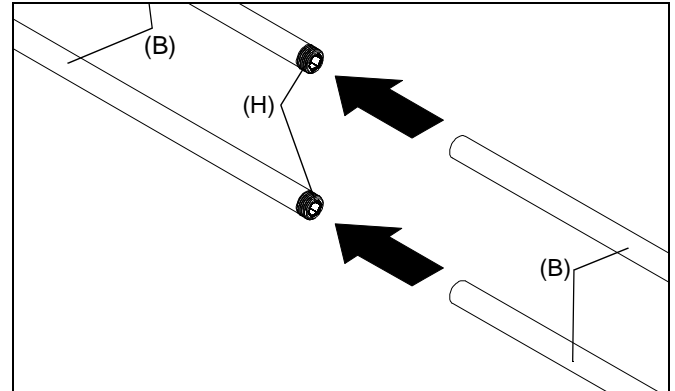

Figure 2
- Connect a second rail (B) to the first rail by connecting it to the rail connector (H) extending from the end of the first rail. (See Figure 2)
- Tighten until the rail connector (G) is no longer visible.
- Repeat with the remaining two rails (B).